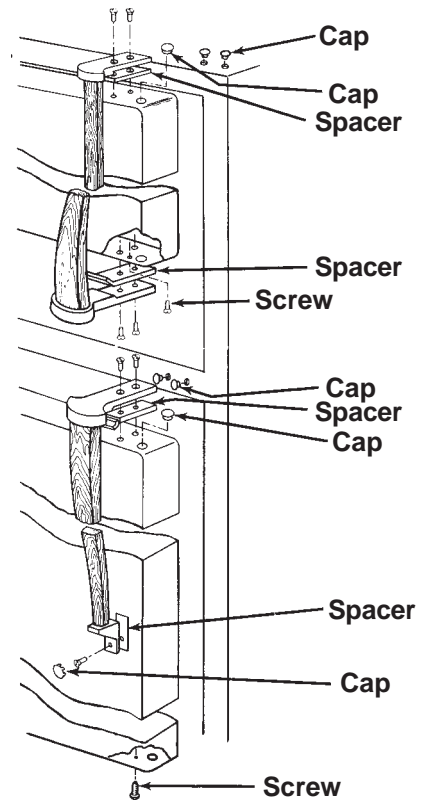

Fig. 62
2. Remove the top hinge. (Fig. 62)
4. Remove the center hinge. (Fig. 62)
6. Remove the bottom hinge. (Fig. 62)
7. Lay the freezer door on a flat protected surface and remove the door handle. (Fig. 62)
9. Lay the refrigerator door on a flat protected surface and remove the door handle. (Fig. 62)